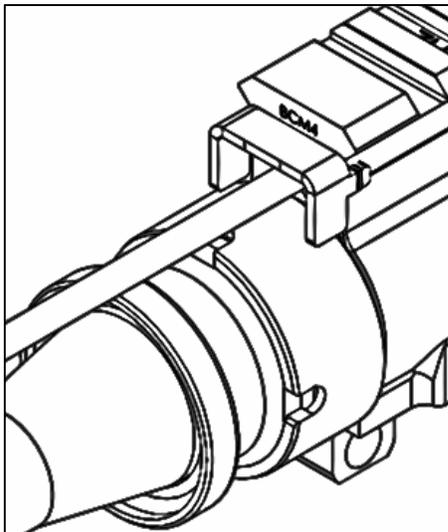

Figure 1.
- Position the KMR barrel nut over the barrel, threads positioned to the rear, and slowly tighten the KMR barrel nut by hand. (See KMR barrel nut pictured in **Figure 1** below.)
- Position index plate onto upper receiver as shown in **Figure 1**.